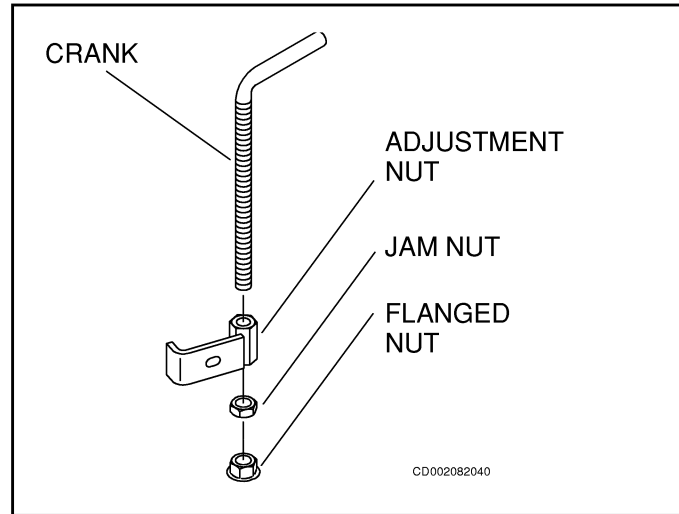

Figure 56 Disc Crank Assembly
1. Thread crank through adjustment nut and secure with 5/8" jam nut and 5/8" flanged nut as shown in Figure 56.